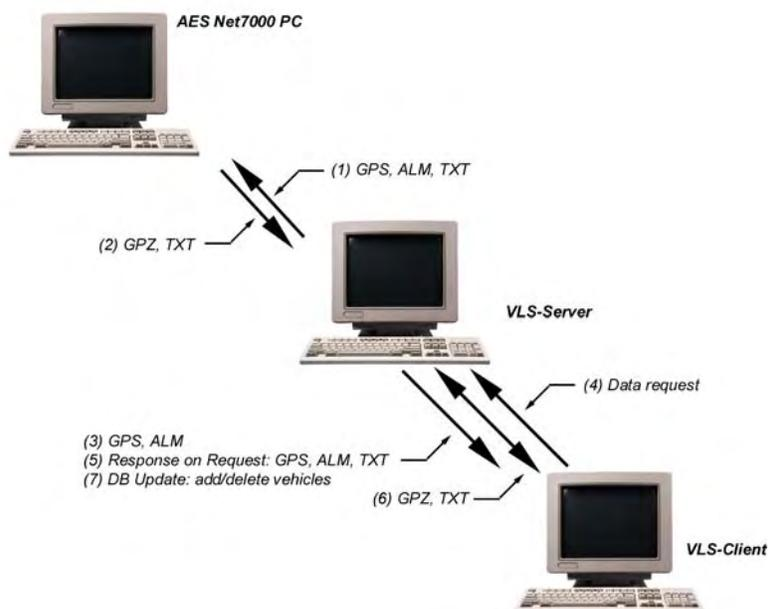

Fig. 2 Data flow chart – (#)'s referenced in text below
The system data exchange scheme is shown in Fig. 2. As may be seen from the drawing the clients interact with their vehicles via **VLS-Server**. Data exchange occurs as follows. The AES Net7000 has a 2-way communication link with vehicles via an AES IntelliNet receiver. It receives messages from vehicles or sends commands or messages to them. The **VLS-Server** performs data exchange with the AES Net7000 PC by means of special exchange files. The **VLS-Server** gets GPS, alarm and text messages [(1) – from Fig 2 above] from the AES Net7000 PC. Messages are appended into the database of the **VLS-Server** and forwarded to the appropriate clients depending upon a vehicle assignments. The **VLS-Server** on a clients' request (or on its own) may send text messages or GPZ (Geographic Zones Programming) commands to the corresponding vehicles (2). There may be five data exchange types between the **VLS-Server** and clients. They are listed below:
- GPS (vehicle location) and alarm messages (3) are transmitted from the **VLS-Server** to the appropriate clients. These messages reflect the current vehicle status.
- Text messages and GPZ commands (6) may be transmitted bi-directional. If a text message comes from a vehicle, the AES Net7000 PC will forward it via **VLS-Server** to the corresponding customer's Client. A customer may also send a text message to his vehicle.
- A client may query the **VLS-Server** for historical GPS, alarm and text data stored in its database for a certain time period. (4).
- In response to the client's data query (4) the **VLS-Server** sends the requested data (5) for the time period specified by the client.
- Updating client's database (7) by adding or deleting vehicles. When an administrator registers a new vehicle on the **VLS-Server** and assigns it to a customer, all vehicle data is transmitted to the appropriate customer's database on a Client. Specifically data synchronization occurs and any new vehicles are automatically recorded in the customer's database. These operations are performed, for example, when a customer installs a new VLS unit on a vehicle. The same synchronization occurs when an administrator deletes a vehicle or withdraws vehicle assignment from a customer (7).